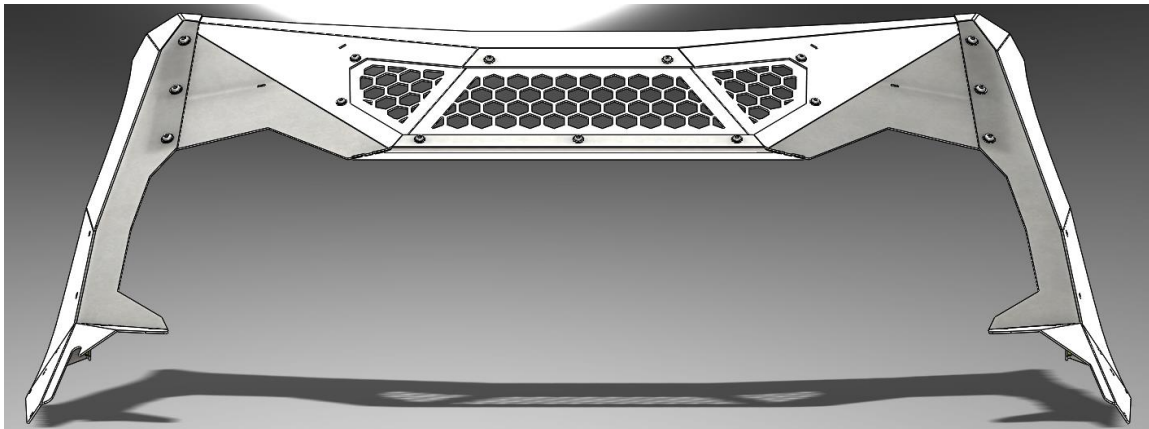

Fig 10
- e. Loosely install both ViCowl arms to the visor using the provided $\frac{3}{8}$ "-16 stainless steel bolts and rubber bonded washers as shown in **Fig 10**.